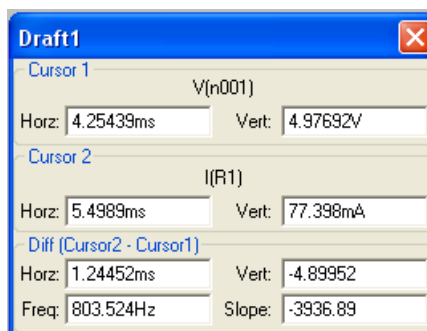

Figure 2.12: Reading Amplitude and Time Differences
13. Drag each cursor to adjacent peaks of the waveforms. To get the amplitude and time difference between the two waves, look at the window with the cursor information (pictured in Figure 2.12).